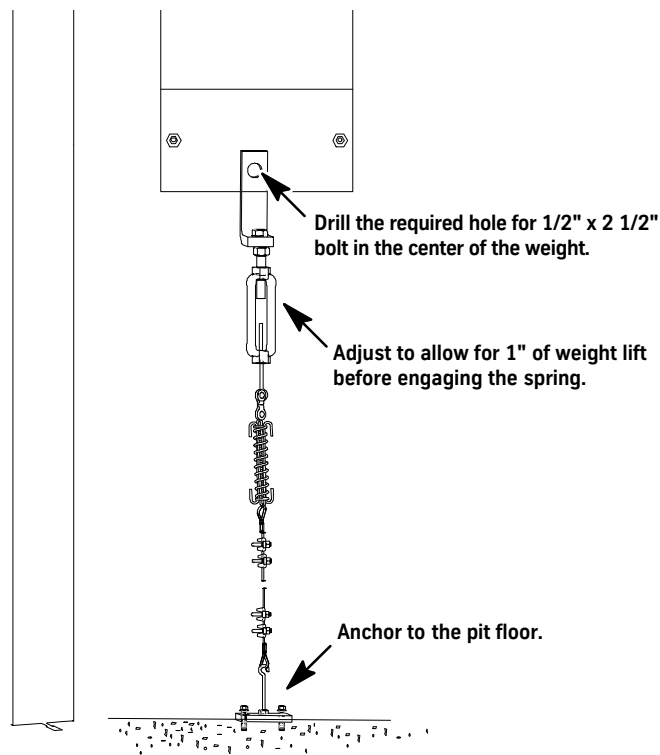

Figure 13 - Tailweight Tie-Down
3. Choose a position on the rail that provides adequate clearance from the bottom of the tailweight to the pit floor (36" minimum for seismic tie-down), and then mount the rail strap. See Figure 13.
7. Install the tie-down assembly, from the weight to the pit floor. See Figure 13.